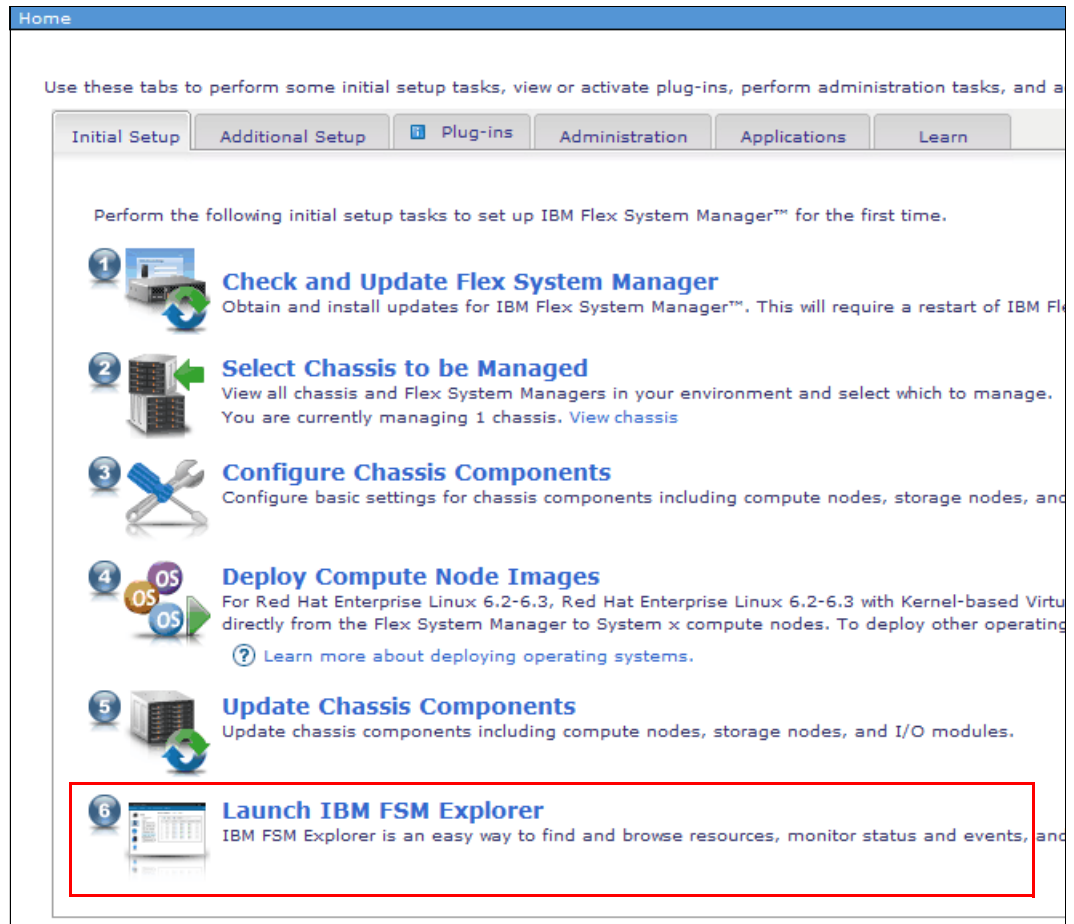

Figure 6-120 Launch IBM FSM Explorer
1. Open a web browser and point it to the IP address of the FSM and log in. The menu panel shown in Figure 6-120 displays, giving you a number of selections.